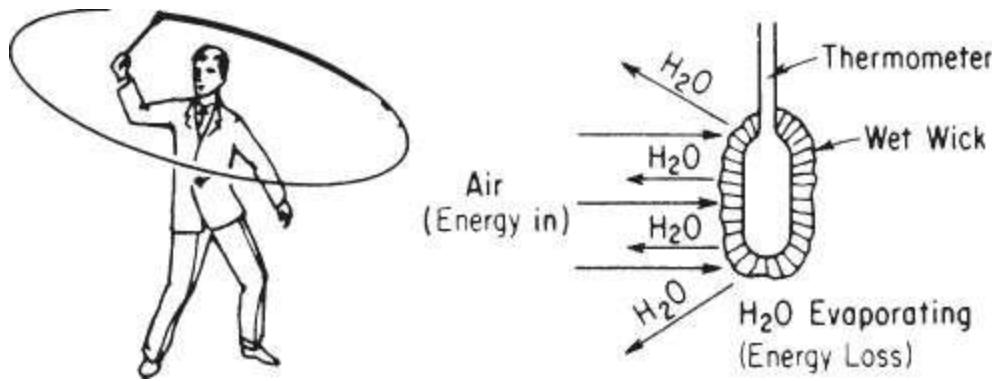

Figure 11.1. Wet-bulb temperature obtained with a sling psychrometer
d. **Wet-bulb temperature (T_{WB})** is something new. Suppose that you put a wick, or porous cotton cloth, on the mercury bulb of a thermometer and wet the wick. Next you either (1) whirl the thermometer in the air as in Figure 11.1 (this apparatus is called a sling psychrometer when a wet-bulb and a dry-bulb thermometer are mounted together), or (2) set up a fan to blow rapidly on the bulb at a high linear velocity. What happens to the temperature recorded by the wet-bulb thermometer?